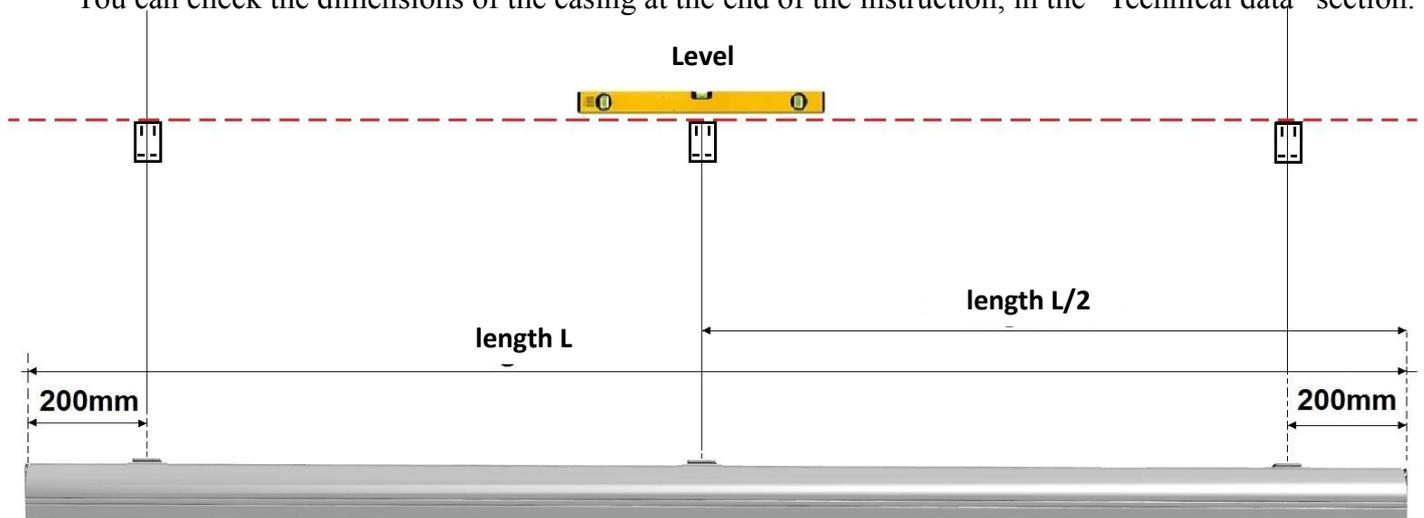

Fig.1
1. Screw the mounting holders onto the wall at a distance of 20 cm from the ends of the casing and at the center (Fig. 1).